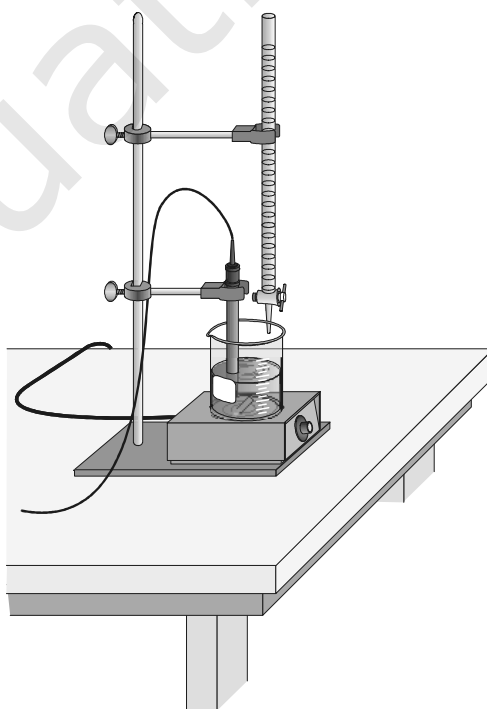

Figure 1
6. Set up a ring stand, a buret clamp, and a buret to conduct the titration (see Figure 1). Rinse and fill the 50 mL buret with 0.020 M MnO_4^- solution. **CAUTION:** *Handle the KMnO_4 solution with care; it has been mixed with H_2SO_4 , which can cause painful burns if it comes in contact with the skin.*